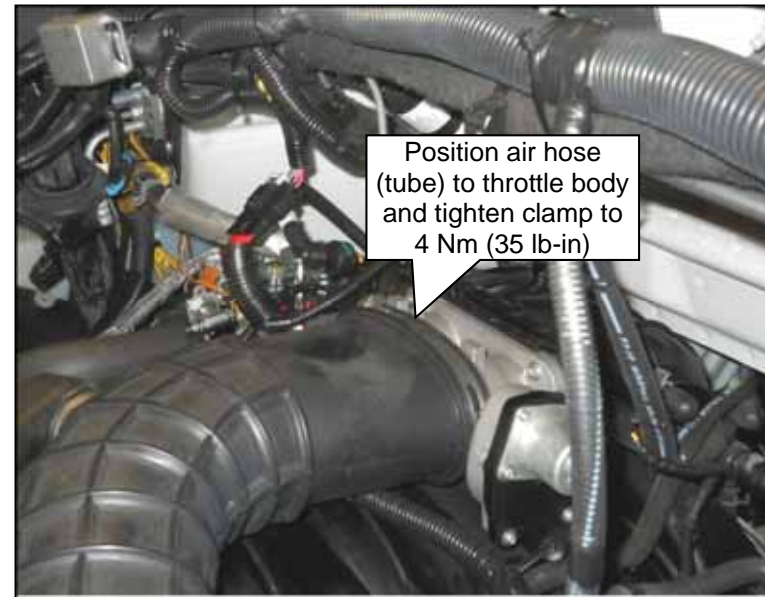

Figure 12.1
1. Install the air induction system. Connect the induction hose (tube) to the throttle body and tighten the clamp to specification. **Figure 12.1.**